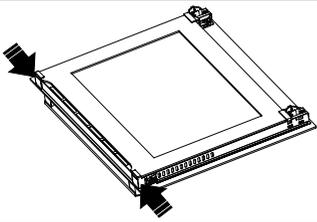
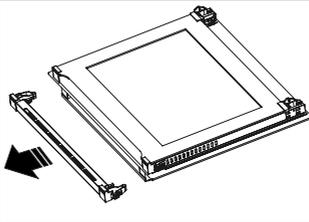
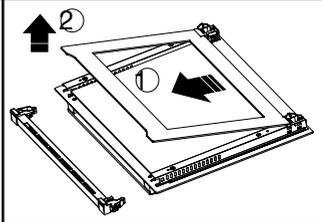

Figure 137
Figure 138
Figure 139
1. Press the plastic latches on the left and right side as shown in figure 137 and lift the profile by pulling it towards you as shown in figure 138. Glass is free after the profile is removed as shown in Fig. 139. Carefully pull the glass that has become free toward you. If necessary, the central glass can be removed in the same way. The outer glass is fixed to the oven door profile. You may easily clean the glasses after they have been separated. Once the cleaning and maintenance is complete, you may replace the glasses and the profile by performing the removal procedure in reverse. Make sure that the glass is inserted in the correct direction and that the profile fits properly.